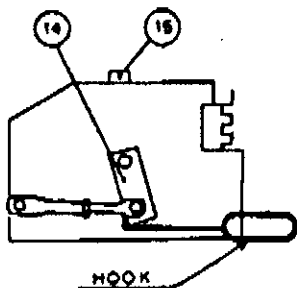

Fig. 13
To test tripping of breaker by the release crank, place a wire hook as shown in Fig. 13 and hold while applying a momentary signal of 12-18 volts D.C. to the tripping actuator EX. When release unlatches, slowly allow release crank to withdraw until breaker trips open.
- a) Adjustment. Insert wire hook as shown in Fig. 13 and hold release crank (14) while applying a momentary signal of 9 - 18 DC to the tripping actuator. When release unlatches, slowly allow release crank to withdraw until breaker trips open. This position shows the release is